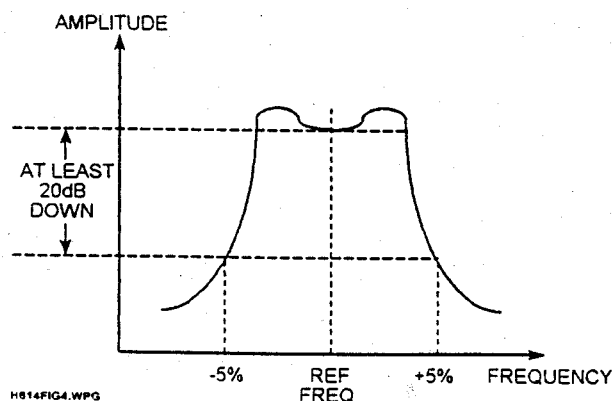

Fig.4 - R.F. Alignment Display
- (1) Press FREQUENCY button
- (2) Press CENTRE FREQUENCY button and set a frequency of 40.145MHz using front panel controls
- (3) Press SPAN button and set a frequency of 10.0MHz
- (4) Press AMPLITUDE button
- (5) Press REF LVL button and set to +20dB
**A TYPICAL RESPONSE CURVE IS SHOWN AT FIG 4**
- (2) Press CENTRE FREQUENCY button and set a frequency of 30.715MHz using front panel controls
- h. Ensure that the <> symbol is 20dB down at +/-5% either side of the centre frequency (this can be done by moving the calibration marker to the required frequency as shown in fig.4).
- n. Ensure that the <> symbol is 20dB down at +/-5% either side of the centre frequency (this can be done by moving the calibration marker to the required frequency as shown in fig 4).